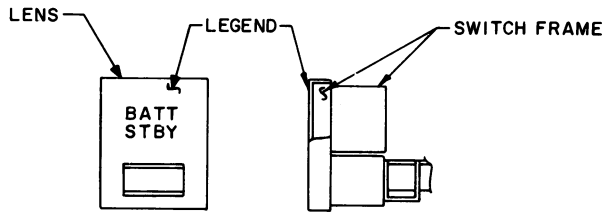

FIG. 1
INSTRUCTIONS (FOR FIG. 1)
3. INSTALL SWITCH LEGEND AS SHOWN IN TABULATION AND IN FIG. 1 (NOTE-COMBINATION OF SWITCH LEGEND AND SWITCH GR. NO., SEE TABULATION ON SH. #2, DETERMINES WIRING CONNECTIONS FOR SWITCH MODULE).